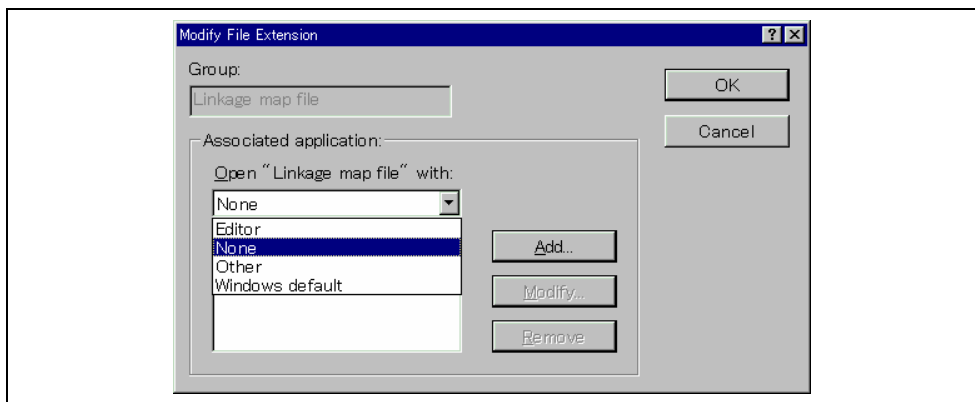

Figure 2.12: Modify File Extension Dialog
2. Click the “Open with...” button. The “Modify File Extension” dialog will be displayed (figure 2.12).